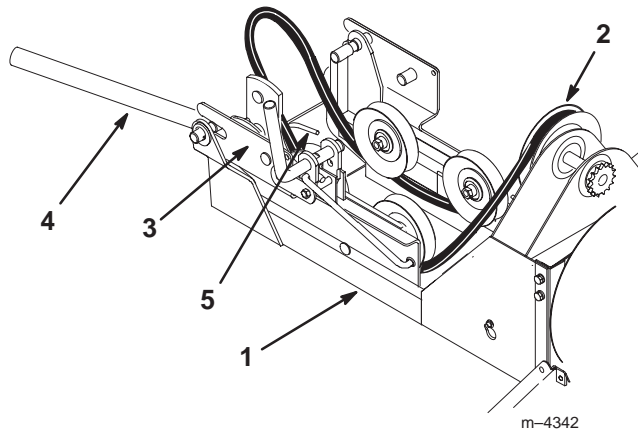

Figure 6
2. Slide the pulley box into the snowthrower frame (Fig. 6).
3. Route the belt over the snowthrower pulley (Fig. 6).